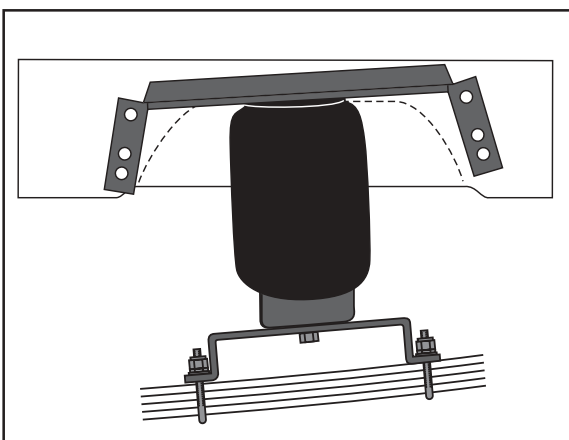

Figure 4
**7. Using the slot in the lower bracket, push the upper bracket against the frame rail.** Use the Pal nuts on the threaded portion of the installation tool to adjust the upper bracket so that the flanges of the upper bracket are flat against the frame rail and at least four mounting holes are on the flat middle section of the frame rail. **Do not drill any holes on the upper or lower radiused edge of the frame rail.** You must also allow at least 1.5" above the upper bracket for air fitting clearance. The brackets can be mounted anywhere within the threaded range of the installation tool (Figure 4).
**NOTE: The frame has an indented area directly over the axle. Normally the upper bracket will span this indented area. If the flange of the upper bracket falls onto or just inside the radiused edges of the indent, it is ok, drill and fasten tight to that rounded surface (Figure 4).**